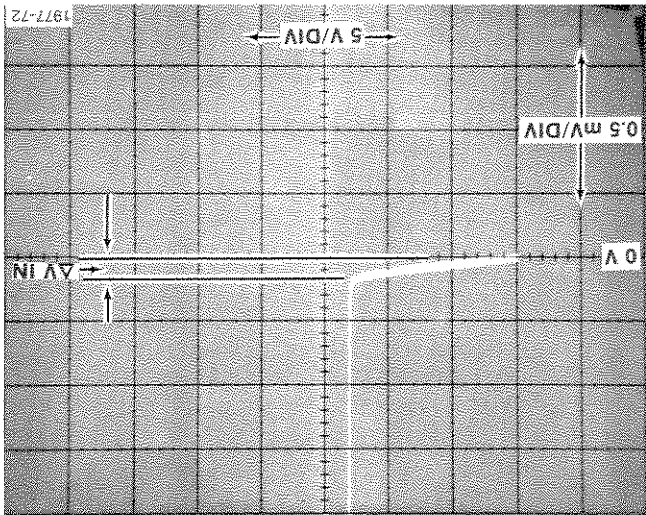

Fig. G-9. - Supply rejection ratio.
c. Change the 178 FUNCTION switch to -PSRR. Press the DISPLAY—ZERO and Erase pushbuttons. From the display that returns, calculate the -PSRR in the same manner that +PSRR was calculated in part b above (see Fig. G-9).